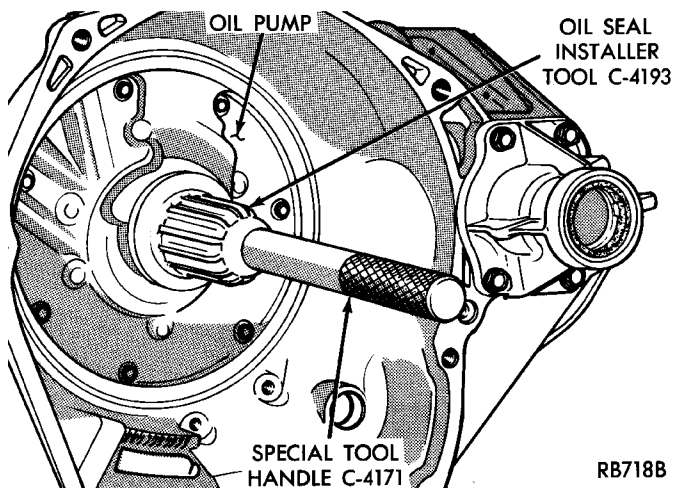

Fig. 45 Install Pump Oil Seal
- (1) To install a new seal, place seal in opening of the pump housing (lip side facing inward). Using Tool C-4193 and Handle Tool C-4171, drive new seal into housing until tool bottoms (Fig. 45).